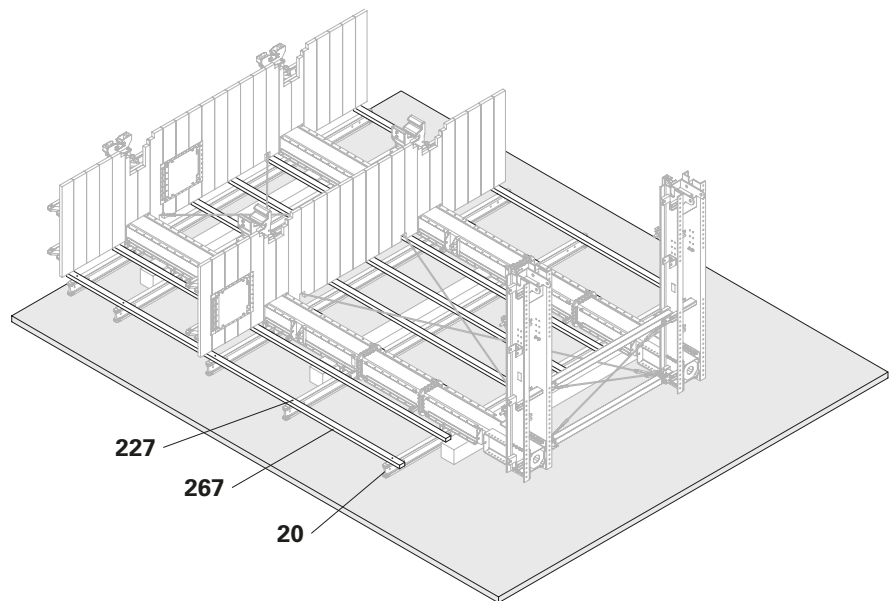

Fig. B6.04
1. Screw the counter-batten (**267**) onto the Girder VT 20 (**20**) with Torx 6 x 100 (**227**). (Fig. B6.04)